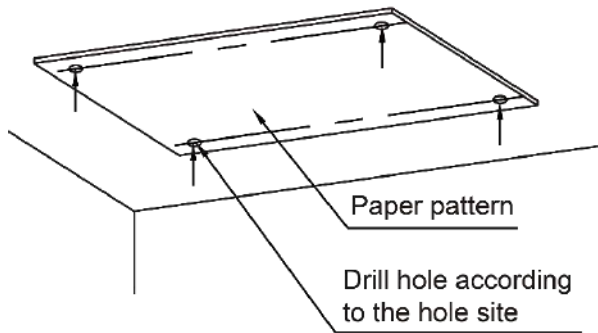
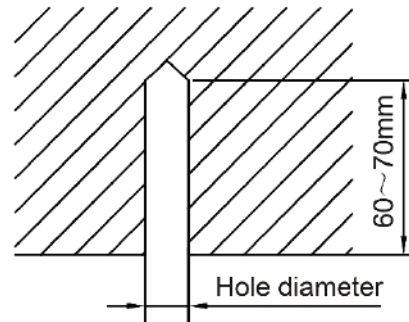

FIG 4.1.2
Fig 4.1.3
- 1) Stick the reference cardboard on the installation position; drill 4 holes according to the hole site on the cardboard as shown in fig 4.1.2; diameter of drilling hole is according to the diameter of expansion bolt and the depth is 60-70mm, as shown in fig 4.1.3.